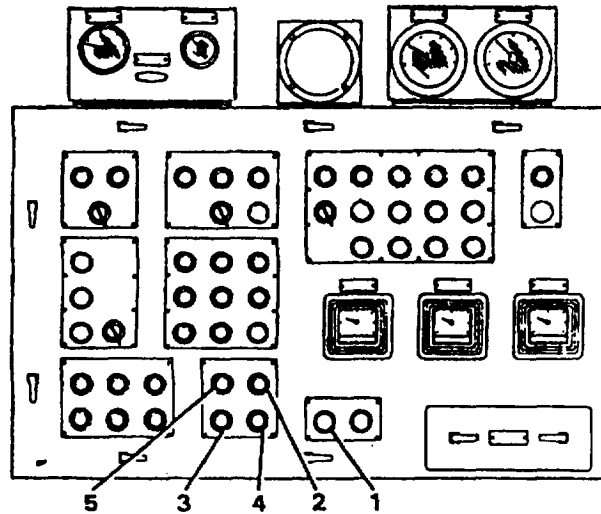

Figure 2-58. Alarm Shutdowns
- (8) Complete Data Log. Refer to Appendix H.
- c. Alarm Shutdowns (Figure 2-58), The alert horn will sound and ROWPU will automatically shut down for the reasons listed below. Push ALARM SILENCE (1) and refer to troubleshooting chart (Table 3-1) to locate and remedy cause for shutdown.